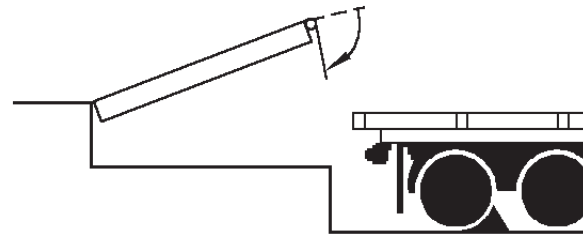

Figure 18
6. When loading or unloading is finished, raise the platform by pressing and holding the RAISE button or holding the pull ring until the lip folds enough to land in the lip keepers, then release the RAISE button or pull ring. The platform will return to the cross-traffic position. See Figure 18.